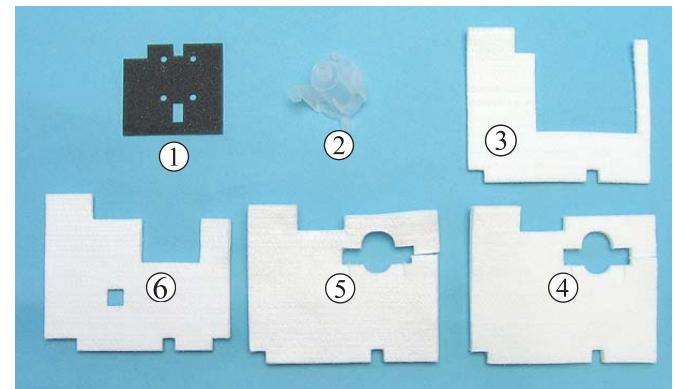

Figure 4-72. Installing Waste Ink Pads (1)
- When installing **(②)** in the section **(B)** (refer to Figure 4-72), be sure to match the positioning tabs and press **(②)** until it clicks to secure it in the right position.